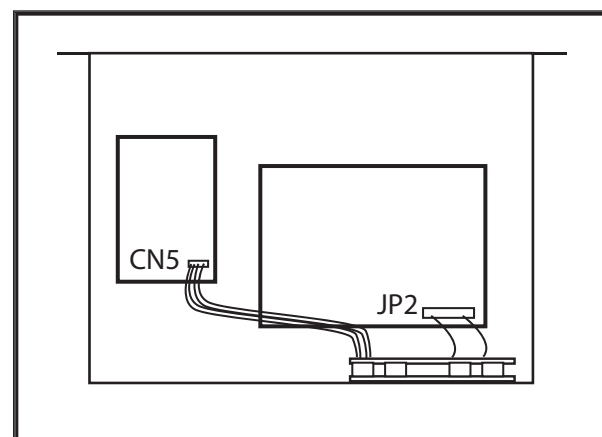

Figure 3
4. If the AI01 (or 02) is mounted into the upper chassis slot, attach the end of the large, gray ribbon connector into the socket labeled JP2 on the D-CLASS DSP MAIN printed circuit board. If the AI01 (or 02) is mounted into the lower chassis slot, attach the large ribbon connector into the socket labeled JP1. There is a notch in the socket that must line up with the tab on the bottom of the connector. (See Figure 3)
6. Attach the end of the small ribbon cable connector to the jack labeled CN5 (and / or CN7 if installing a second Analog I/O) on the D-CLASS POWER printed circuit board. Note that the two notches on the connector must line up with the notches on the jack. Push the plug down into place. (See Figure 3)